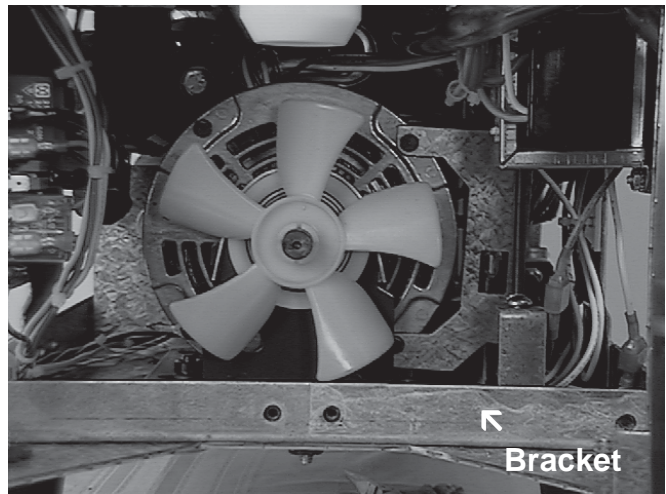

Figure 43. Drive Motor/Stiffener Bracket
4. Remove the three cap screws from the stiffener bracket and remove the bracket. Figure 43.